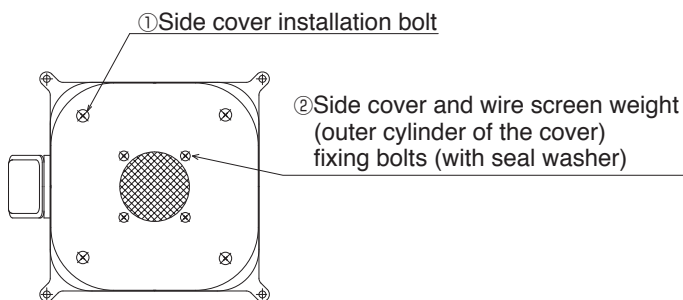

Fig.9
- ① Remove the side cover installation bolts, followed by the side cover. (See Fig. 9)
- ② Remove the bolts (with seal washer) which secure the side cover and wire screen weight (for V□1, outer cylinder of the cover) (See Fig. 9)